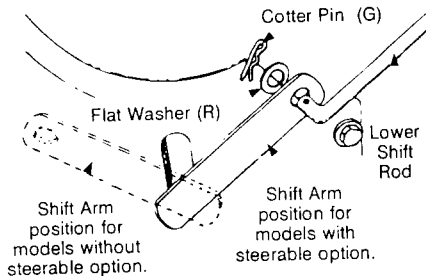
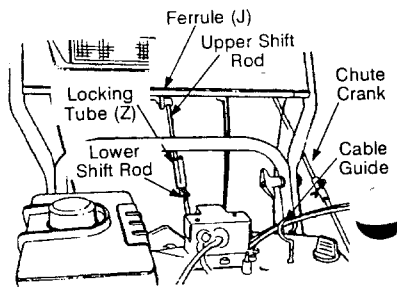

FIGURE 10
FIGURE 11
- Insert the end of the lower shift rod into the small hole into the shift arm assembly, located outside the snowthrower frame. Secure with flat washer (R) and cotter pin (G) (washer and cotter pin should be on the engine side of the bracket). See figure 10.
- Slide the locking tube (Z) over the threaded end of the upper shift rod.
- Thread the ferrule (J) on the threaded end of the upper shift rod.
- Make sure the upper and lower shift rods are secured with cotter pin and slide the locking tube down as shown in figure 11.
- Insert the (optional) remote chute cables into the cable guide, located on top of the engine. See figure 11.